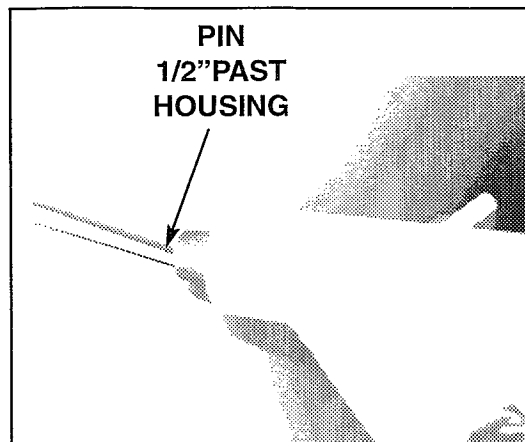
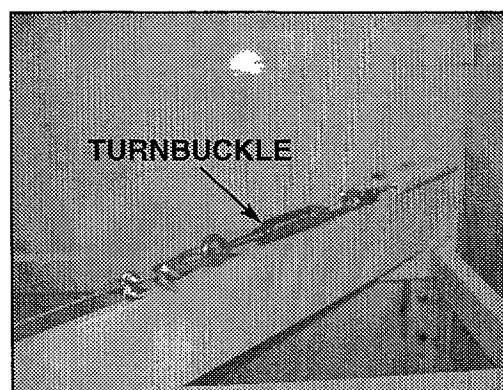

Figure 15
Figure 16
10. After carriage is hanging from lift chains, back safety pin retaining nuts all the way to the “eye” of eye bolt. Lock into place. The safety pins are now ready to actuate if chains break. See Figure 12. Pins should stick past housing approximately 1/2”. See Figure 15. After raising lift, make sure pins clear rack during normal operation. (Use turnbuckle if needed to adjust pin distance, see Figure 16.